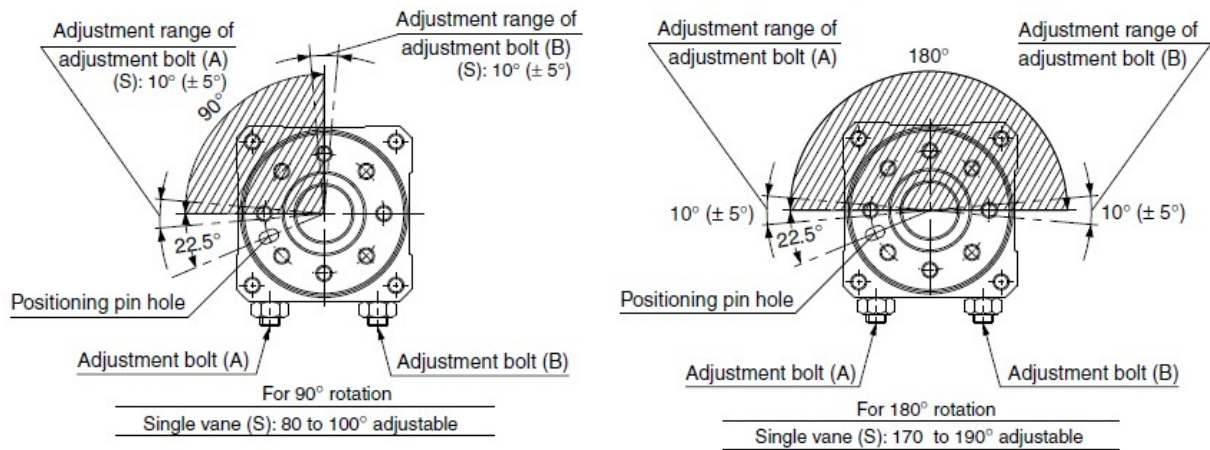

Fig.2
Angle adjustment is possible as shown in the Fig. 2 below using adjustment bolts (A) and (B).